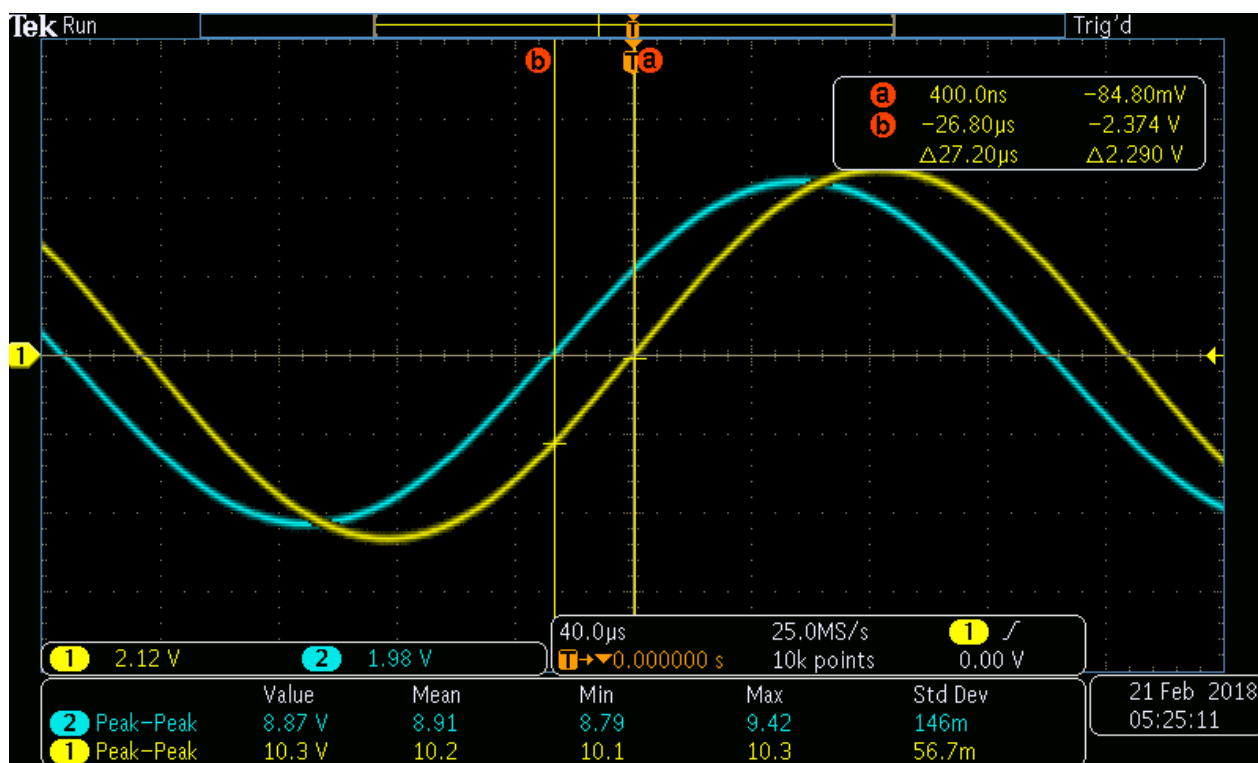

Figure 2 – A screen shot of the oscilloscope with the cursors being used to measure phase.
**Pro-Tip:** Use the **zero-crossing method** to measure the phase: place cursor (a) at the point where the *rising edge* of CH1 intersects the midline and cursor (b) where the *rising edge* of CH2 intersects the midline. See Figure 2 for a sample screen shot.